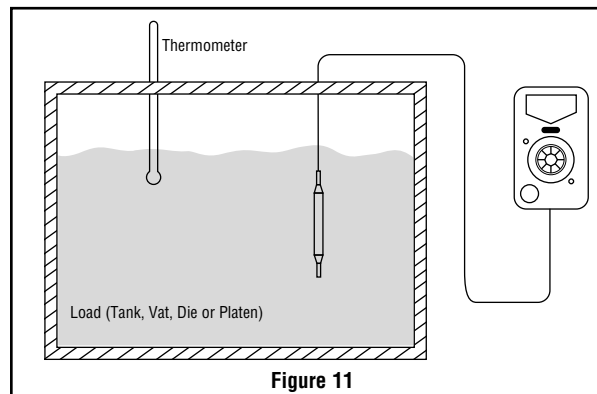

Figure 11
- B. With the aid of an accurate thermometer or other temperature measuring device, recalibration may be performed within the process as in Figure 11.